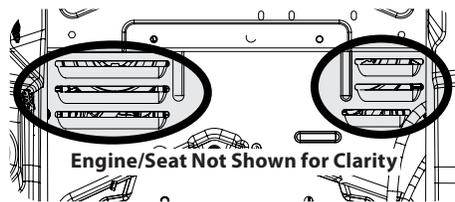

Figure 4-2
- Keep both sides of transmission cooling slots, exhaust manifold, around fuses, all wiring and harnesses, muffler pipe, muffler shield, engine intake screens and cooling fins, etc. clear of grass clippings and leaves. See Figure 4-2.